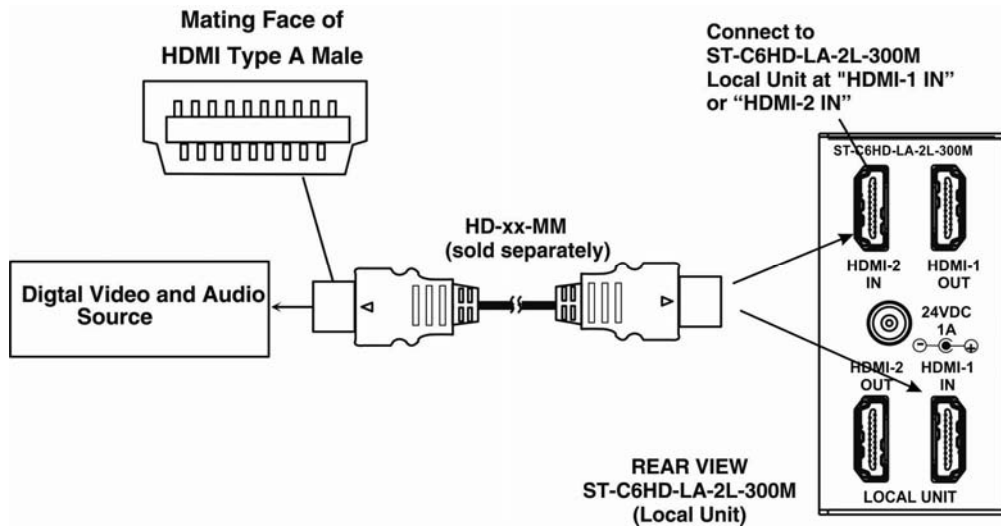

Figure 10- Connect cable between video/audio source and module
- Connect a cable between the Local Unit and the HDMI video source. Figure 10 shows the proper connections for the ST-C6HD-LA-2L-300M using a HD-xx-MM cable (xx= 3, 6, 9, 14, 20, 30, 50, 75, 100 and 150 foot length). Make sure connections are firmly seated. If your local unit includes CEC support, a CEC-enabled source will be fully supported when using the IR remote control.